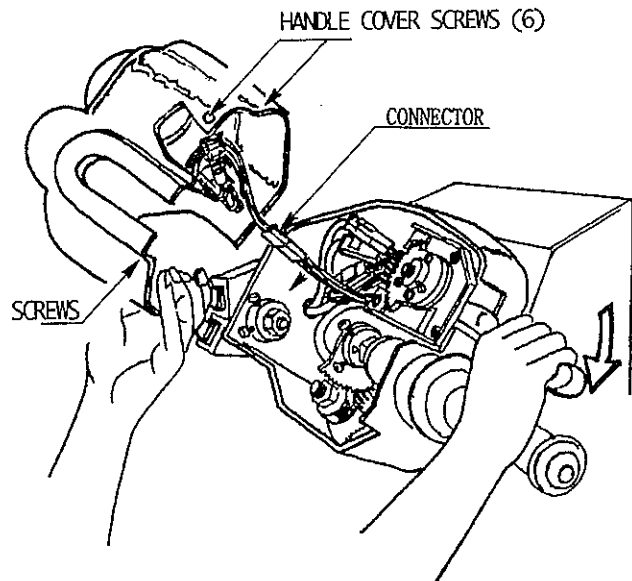

FIGURE 38: HANDLE COVER ACCESS
2. Open the Handle Cover by removing the 6 phillips head screws that secure the Handle Cover to the Handle Base (see Figure 38).
4. Unplug the Molex connector that connects the Handle Cover wiring to the rest of the machine (see Figure 38).